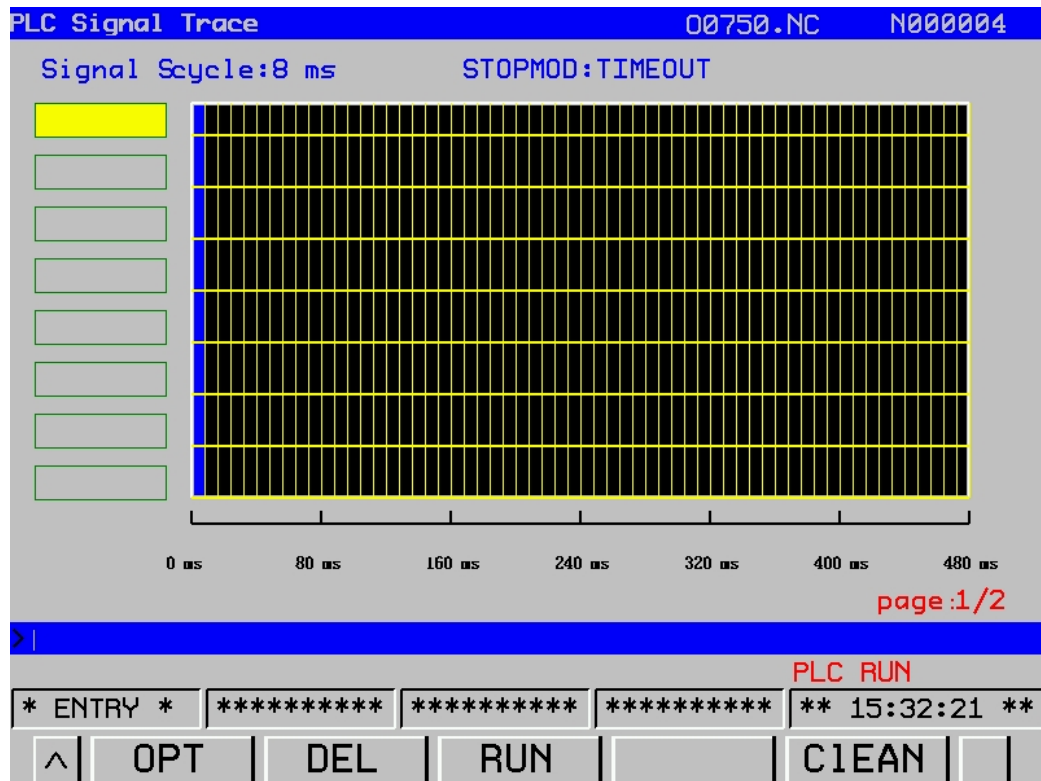

Fig. 3-6-11
Several corresponding interfaces are available: **[F resource]**, **[G resource]**, **[X resource]**, **[Y resource]** and **[TRACE]**, please refer to *Volume II: PLC and installation connection* of the manual for the significance of each diagnosis number and setting method. A signal trace is shown on Fig. 3-6-11.
- Press the softkey **[OPT]**, when this signal is performed, the figure 3-6-11 frame may occur. If no signal is transmitted, a straight line is displayed in this case.